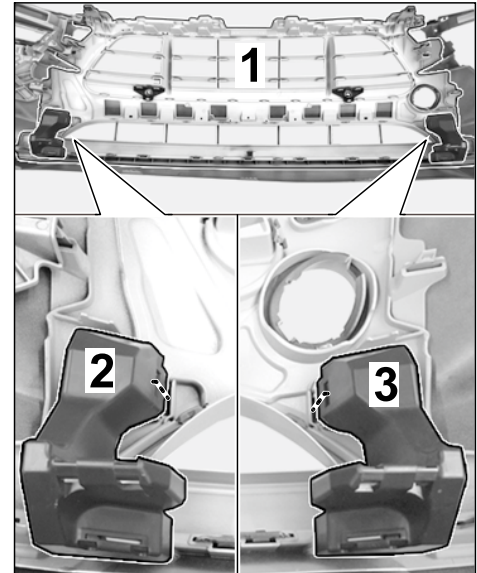

Figure 6
- 2.6.1 Fit Z support (left/right) in the (center) radiator grille (⇒ *Figure 6*).